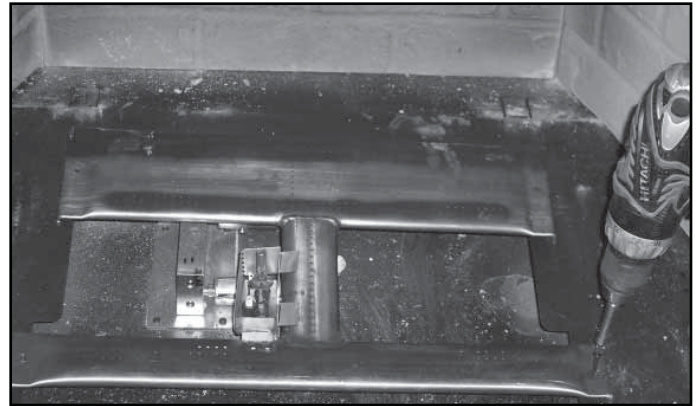

Figure 12.2 Remove Burner Screws
- Remove 4 screws holding Burner in place and remove burner. See Figure 12.2.